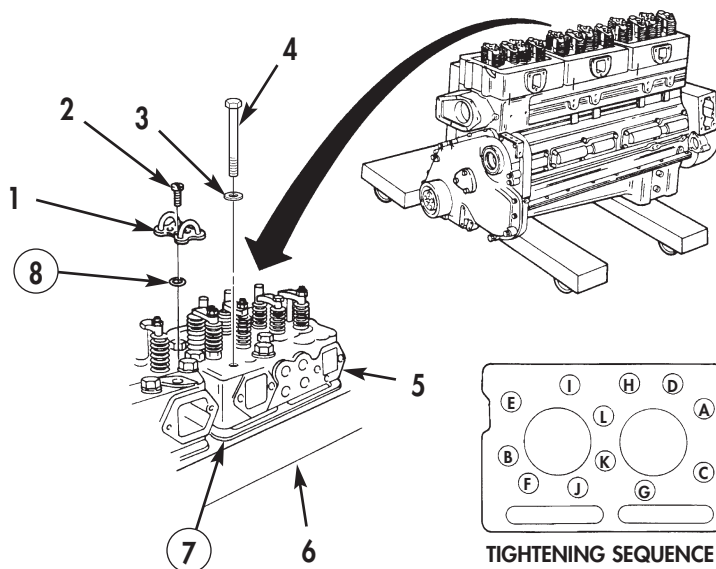

Figure 1. Cylinder Head Installation.
1. Install new cylinder head gasket (7) on cylinder head (5).
2. Install cylinder head (5) on cylinder block (6).
3. Apply rust preventative lubricant to twelve screws (4). Allow excess lubricant to drip from screw threads before installation.
4. Install twelve screws (4) and washers (3) on cylinder head (5). Tighten screws (4) 25 lb-ft (34 N•m) in sequence shown in figure 1.
5. Tighten screws (4) 100 lb-ft (136 N•m) in sequence shown in figure 1.
6. Tighten screws (4) 305 lb-ft (414 N•m) in sequence shown in figure 1.
7. Tighten screws (4) 285 lb-ft (387 N•m) in sequence shown in figure 1.
8. Apply OE/HDO 10 lubricating oil to four new O-rings (8).
9. Install O-rings (8) on counterbores of cylinder head (5).
10. Install two fuel crossover connections (1) on cylinder head (5) with four screws (2). Tighten screws (2) 38 lb-in (4.3 N•m).